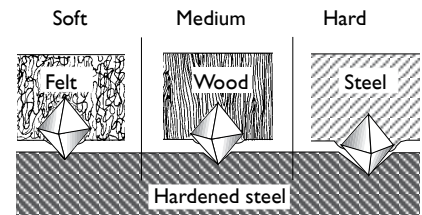

Figure 6. The hardness of the carrier affects the exposure of the diamond grains and the removal rate.
- With softer carrier the abrasive is able to penetrate deeper into the carrier. This will result in that the surface will be finer for the same size of abrasive. See Figure 6 below.